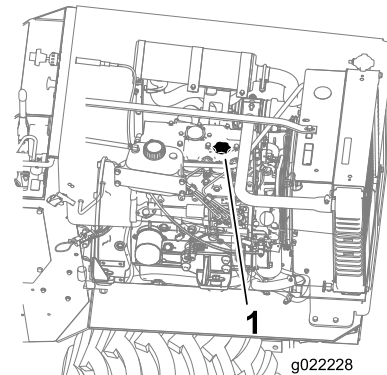

Figure 23
8. If the oil level is low (below the bottom hole), clean around the oil filler cap and remove the cap (Figure 23).